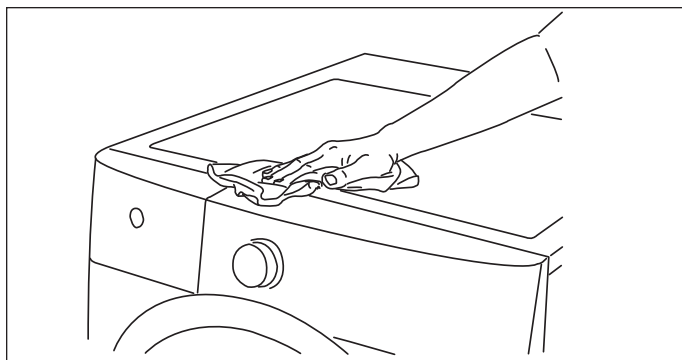

Figure 2-52.
1. Wipe front portion of top with isopropyl alcohol and a clean cloth. (See Figure 2-52)